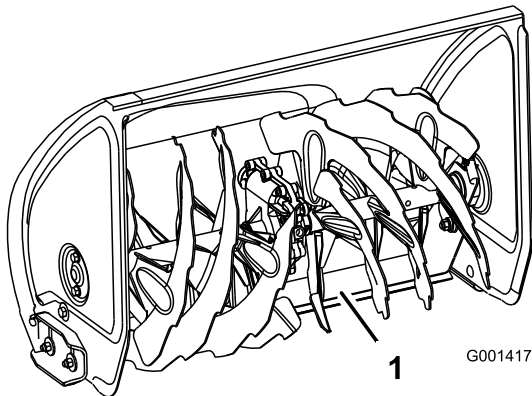

Figure 44
4. Push down on the handles to allow the pivoting scraper to move fully forward, then set the front of the machine down so that the front edge of the pivoting scraper contacts the ground (Figure 44).